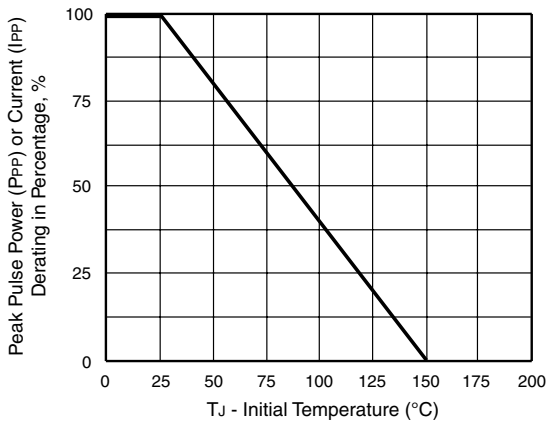
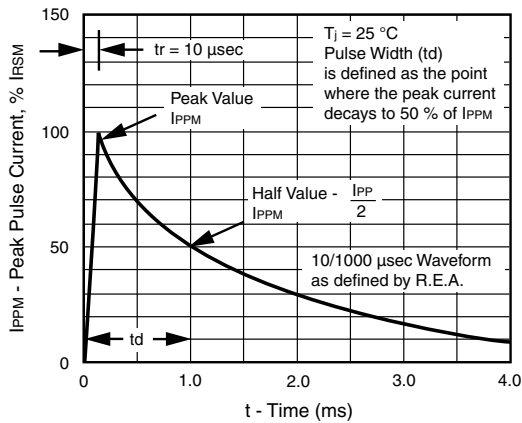

Figure 2. Pulse Power or Current versus Initial Junction Temperature
Figure 3. Pulse Waveform
(1) Non-repetitive current pulse, per Fig. 3 and derated above T_A = 25 °C per Fig. 2.
(2) Mounted on 0.2 x 0.2" (5.0 x 5.0 mm) copper pads to each terminal
- (1) Pulse test: $t_p \leq 50\text{ ms}$
- (2) Surge current waveform per Fig. 3 and derate per Fig. 2
- (3) For bi-directional types having V_{WM} of 10 Volts and less, the I_D limit is doubled
- (4) All terms and symbols are consistent with ANSI/IEEE C62.35
- (5) For the bidirectional SMA5J5.0CA, the maximum $V_{(BR)}$ is 7.25 V
- (6) $V_F = 3.5\text{ V}$ at $I_F = 25\text{ A}$ (uni-directional only)